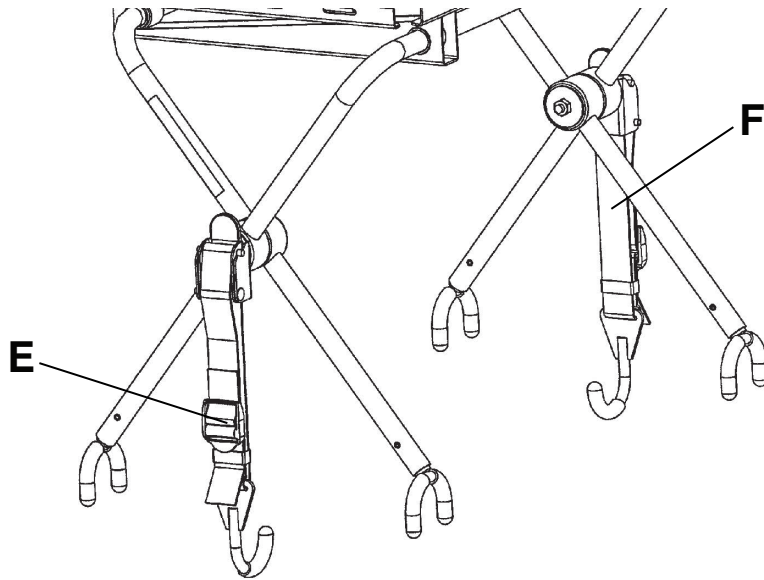

Figure 20 – Attach defibrillator platform to the cot
- Secure the straps (E) to hold the defibrillator on the defibrillator platform (Figure 20).